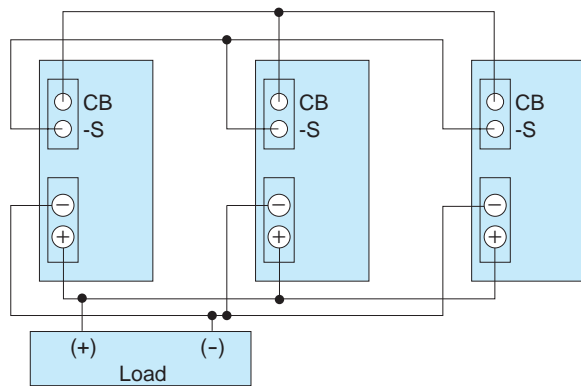

Fig.5.9 Parallel operation condition
- ① Before wiring, output voltage should be set to the required voltage at first to each power supply. Each output voltage differences must be less than 0.1V or 1% of the rated output voltage, whichever smaller.
- ② Please connect each wire refer to Fig 5.9. And please use same length and same type wire to connect each load line.
- ③ As variance of output current drew from each power supply is maximum 15%, the total output current must not exceed the value determined by the following equation.